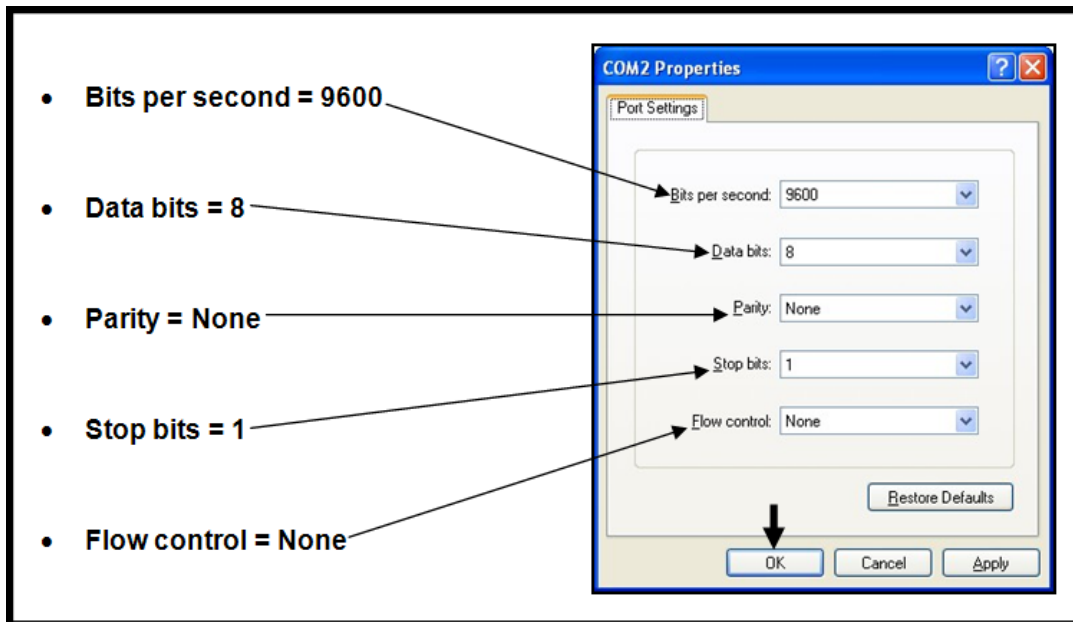

Fig. 5.5
- 6) On the following screen, verify or change the settings as needed so that they are as follows, then select **OK** (Fig. 5.5).